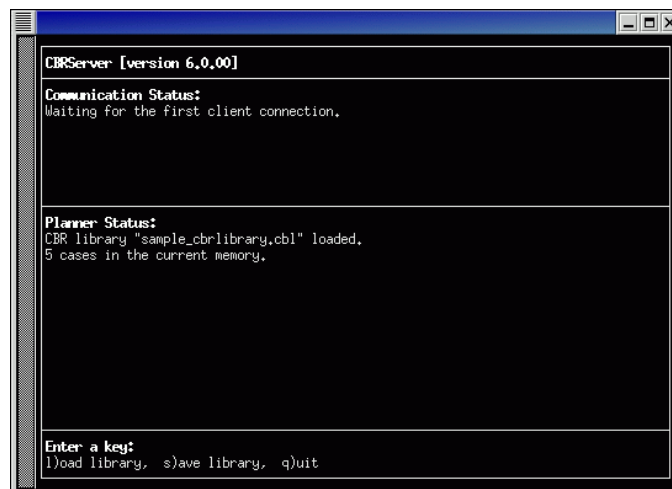

Figure 66: *CBRServer* - main window
-d enables the debugging mode, and it will dump debugging information in a file (whose name would be something like "cbrserver-debug-xxxx-yyyy.out" where xxxx is your user name and yyyy is a current date). -h will print out the usage. -s will set *CBRServer* to use *socket name* to communicate with *CfgEdit*. The default *socket name* is "/tmp/xxxx-cbrplanner.socket" where xxxx is your user name. The default *socket name* can be altered by uncommenting the line for *CBRServerSocketName* in ".cfgeditrc". -l option will make *CBRServer* to load the specified CBR library file ("*.cbl") upon start-up. The invoked *CBRServer* will display the (ncurses) window as in Figure 66.